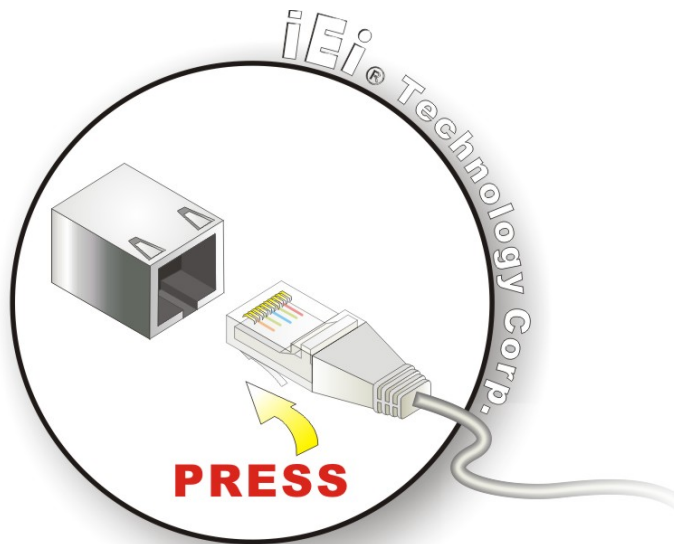

Figure 4-10: LAN Connection
Step 2: **Align the connectors.** Align the RJ-45 connector on the LAN cable with the RJ-45 connector on the WAFER-OT-Z650/Z670. See **Figure 4-10**.